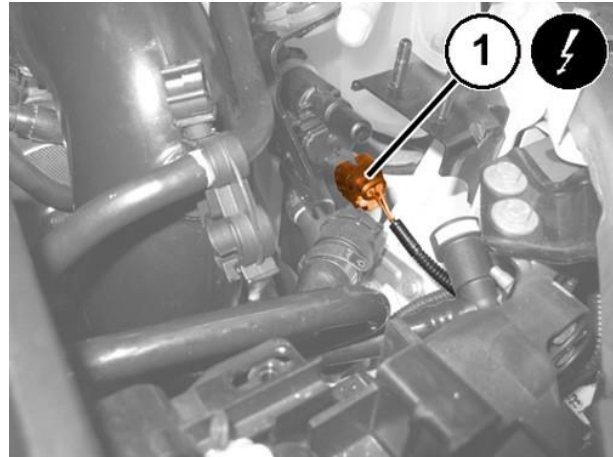

Figure 45 – Solenoid Valve Connector
30. Disconnect the electrical connection (1) for the solenoid valve (Figure 45).